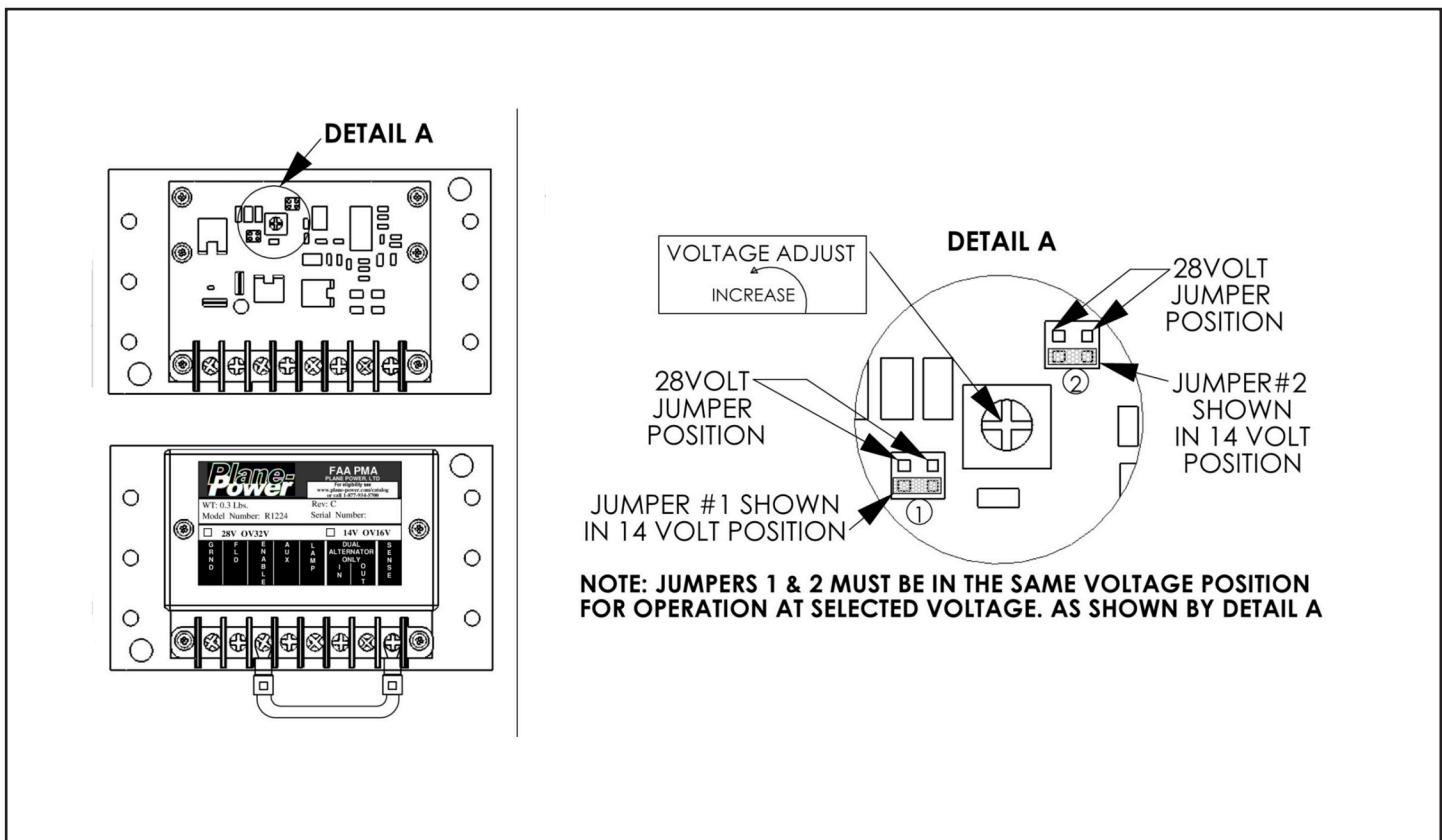
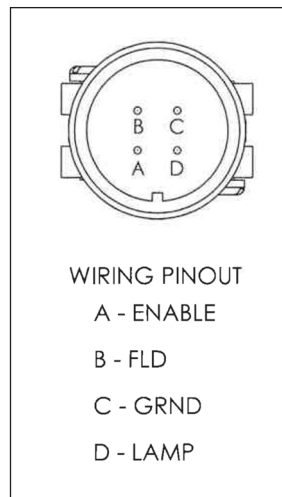

Figure 6-1 - Regulator Voltage Adjustment
Figure 6-2 - Installation Aid
- (7) If an ALTERNATOR out lamp is installed in the aircraft and is to be actuated by the regulator, connect the negative wire of the lamp to the LAMP terminal of the regulator.
- (8) Remove the regulator cover and ensure that the internal jumper #1 and jumper #2 are set to the proper voltage for the aircraft system. Refer to Figure 6-1.
- (9) With the engine running and the alternator switch turned on, using a small screwdriver, set the regulator's voltage adjustment so that the bus voltage, as measured at the ENABLE terminal is the desired value. Refer to aircraft maintenance manual or battery manufacturer's data for proper voltage setting.
- (10) Reinstall the regulator cover.
- (1) Remove the old regulator.
- (2) Ensure that the R1224 jumpers are set properly for the aircraft voltage (Fig. 6-1). Verify aircraft electrical system voltage.
- (3) Install R1224 Regulator.
- (4) Connect the Black wire to R1224 #1 (GND).
- (5) Connect the Yellow (Field) wire to R1224 #2 (Field).
- (6) Connect the Red (Power) wire to R1224 #3 (Enable).
- (7) If applicable for LAMP function, connect a locally manufactured jumper between R1224 #3 (Enable) & #4 (Aux).
- (8) For R1224 Rev C and later (Fig. 6-1): Remove jumper between #8 (Sense) and #3 (Enable). Connect the A (Sense) wire to R1224 #8 (Sense).
- (5) Connect the Blue (Field) wire to R1224 #2 (Field).
- (8) For R1224 Rev C and later: Remove jumper between #8 (Sense) and #3 (Enable). Connect the A (Sense) wire to R1224 #8 (Sense).
- (1) Remove old regulator.
- (3) Install R1224 using 12-1021 Adaptor Plate.
- (5) Connect the Blue (Field) wire to R1224 #2 (FIELD).
- (6) Connect the Red (Power) wire to R1224 #3 (ENABLE).
- (7) Connect the Yellow (Lamp) wire to R1224 #5 (LAMP).
- (8) If applicable for LAMP function, connect a locally manufactured jumper between R1224 #3 (Enable) & #4 (Aux).
- (9) For R1224 Rev B and earlier: Insulate the end of the Orange (Sense) wire and stow it safely.
- (2) Ensure that the R1224 jumpers are set properly for the aircraft voltage (Fig. 6-1). Grumman AA-5, AA-5A and AA-5B are 14V. Single-engine Cessna aircraft were 14V or 28V – Verify aircraft electrical system voltage.
- (3) Install R1224. The large holes in the base match the mounting holes used to mount the Ford regulator. Some mounting locations may have protrusions under the regulator, as the Ford units had a hollow area underneath. If this is the case, mount the R1224 on standoffs or use the 12-1021 Adaptor Plate. The 12-1021 can be purchased from Plane-Power.
- (4) Connect the G (Ground) wire to R1224 #1 (GRND).
- (6) Connect the S (Supply) wire to R1224 #3 (ENABLE).
- (8) For R1224 Rev B and earlier: Insulate the end of the A (Sense) wire and stow it safely.
Use R1224B with the Plane-Power 12-1016 Installation Aid (Fig. 6-2. Purchase the 12-1016 connector from Plane-Power).
- (2) Ensure that the R1224B jumpers are set properly for the aircraft voltage (Fig. 6-1). Verify aircraft electrical system voltage.
- (3) Jumper R1224B #3 (Enable) to #4 (Aux).
- (4) For R1224B Rev. C and later: Ensure that there is a jumper between #8 (SENSE) and #3 (ENABLE).